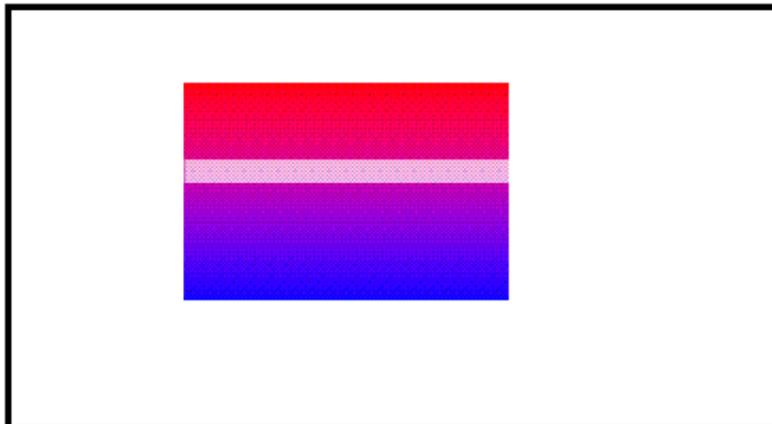

Figure 9. CTRLDESCLn_5 and CTRLDESCLn_6 Register
- Configure the chroma-keying ranges using CtrlDescLn_5 and CtrlDescLn_6. These registers are used to define which colors of pixels are selected within the graphic. They define the maximum and minimum POSY POSX ADDR values for each color component of the selected pixels. The behavior of the selected pixels is controlled using CtrlDescLn_4. Figure 9 illustrates an example in which pixels of a certain color range are selected and then made partially transparent.